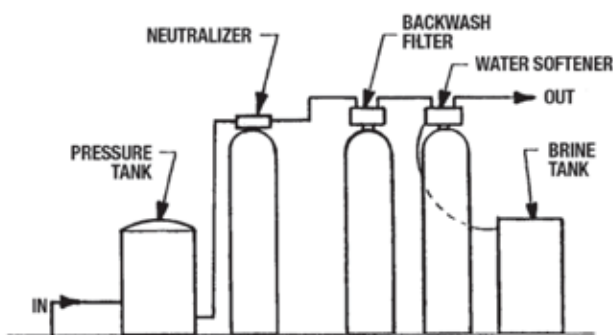

Figure 1. TYPICAL INSTALLATION SEQUENCE
2. **Installation Sequence (Fig 1):** Refer to Typical Installation Sequence for correct placement of neutralizer in relationship to other water treatment devices. Installation location is critical because it may change the effectiveness of other products.